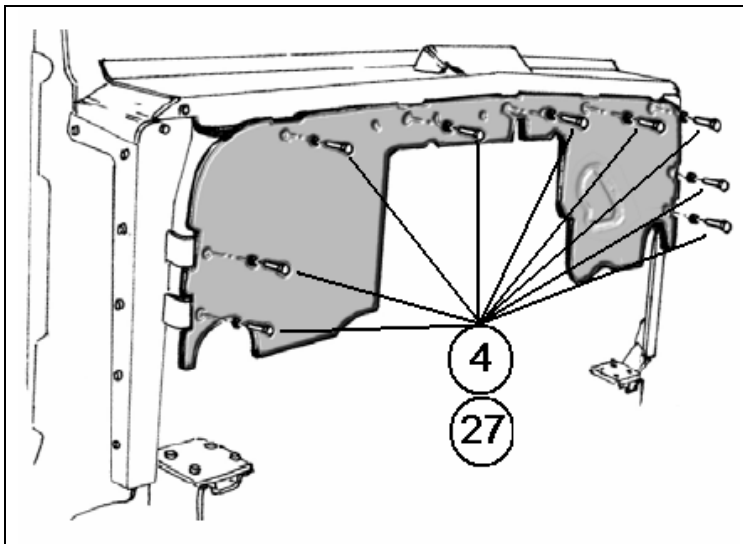

Figure 5-75. Front Cover Kit Installation (3 of 5).
2. Install the firewall armor panel #262 as indicated in Figure 5-75.